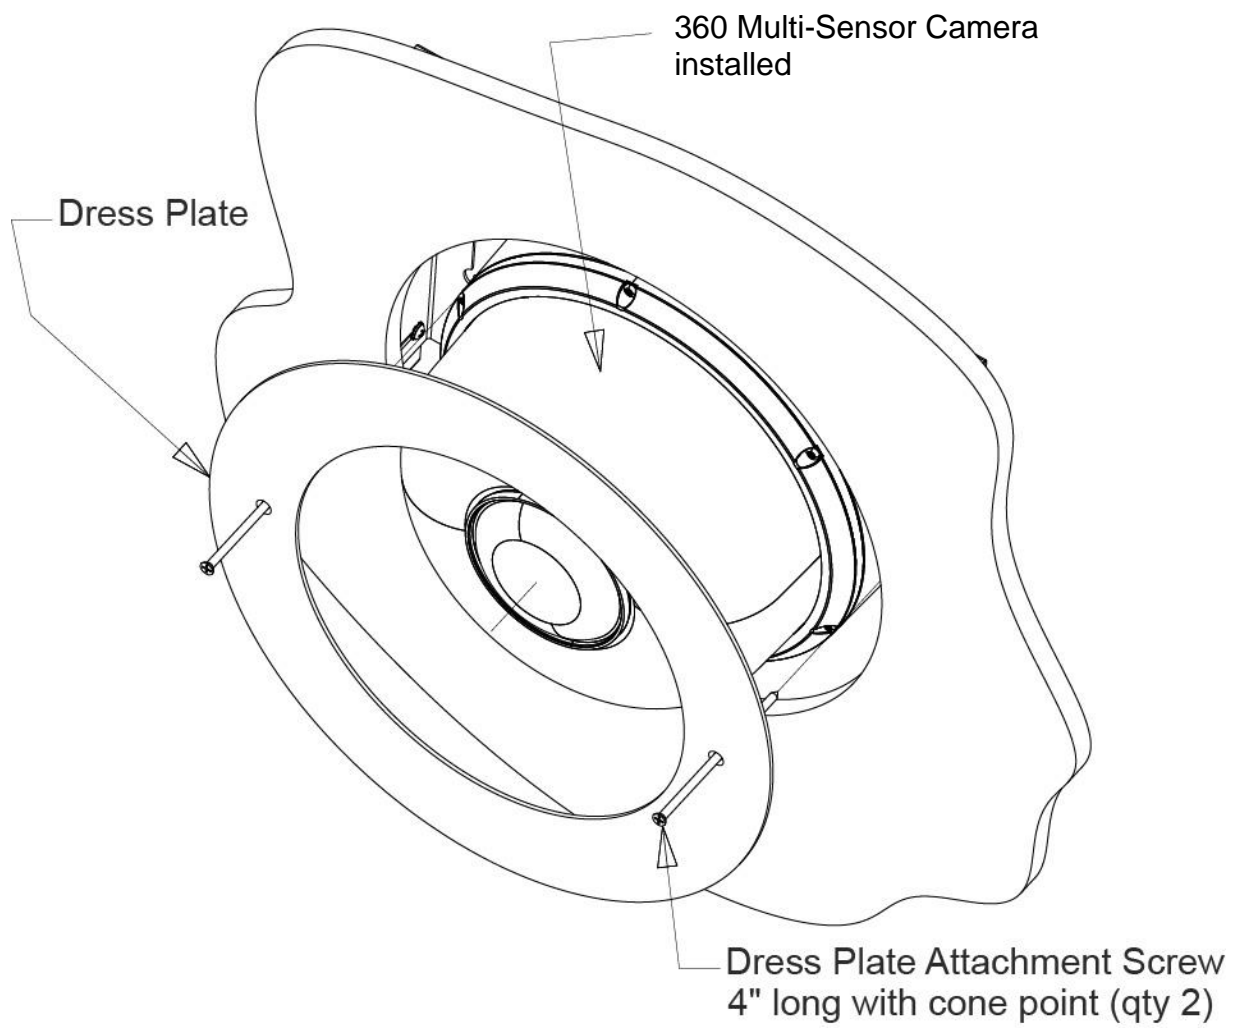

Figure 5
12. After setting up the camera, reattach the camera lower dome and attach the dome dress plate as shown in Figure 5. When attaching the dress plate, it is convenient to leave an adjacent tile removed and provide some lighting in the ceiling as an aid in installing the plate. Care should be taken not to scratch the lower dome while attaching the dress ring.